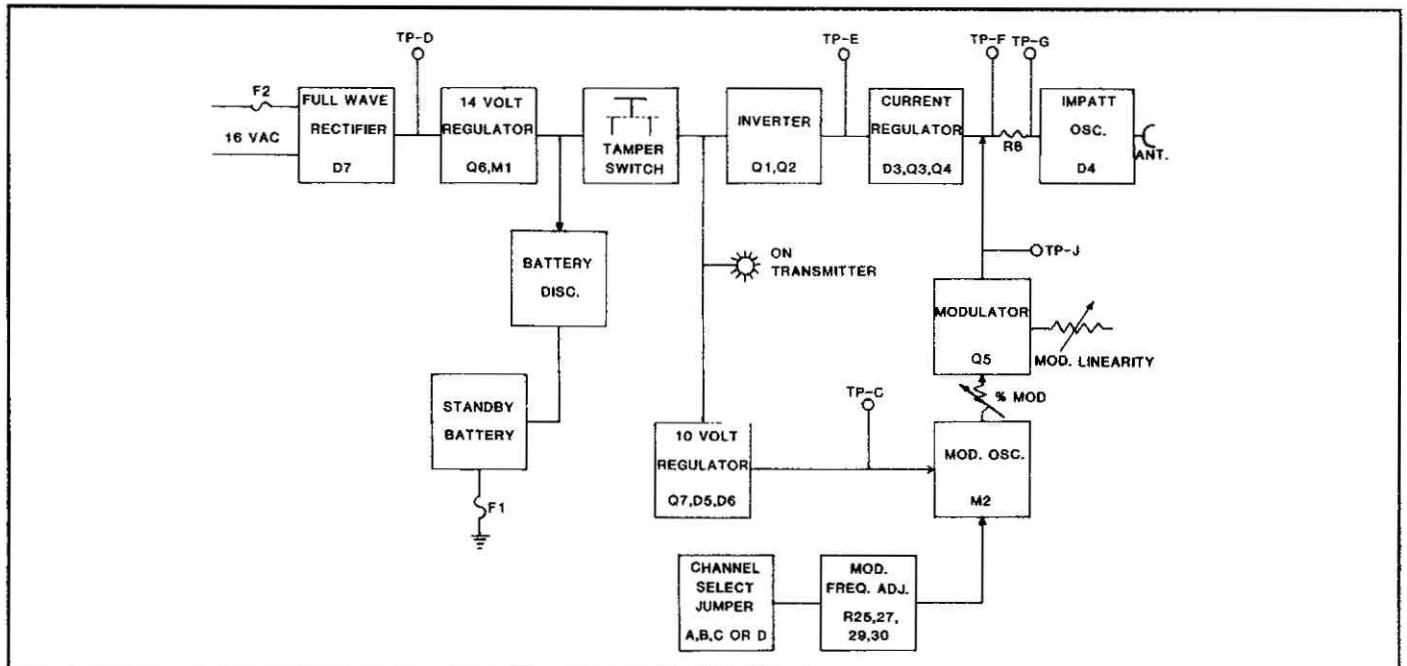

Figure 6: Model 14000 Transmitter (IMPATT) Block Diagram
A. Transmitter (refer to block diagram, Figure 6, and schematic diagram). For Gunn source and board, refer to Insert 13.